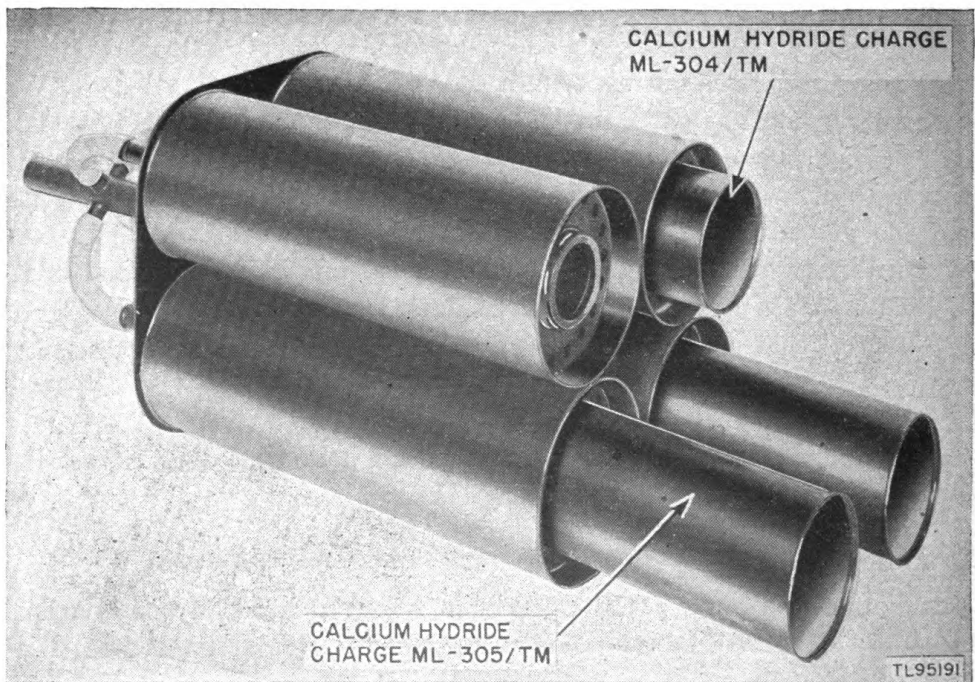

Figure 11. Attaching calcium hydride charges.
f. Attach the calcium hydride charge to the bottom of the generator by engaging the interrupted threads (fig. 11).
d. Attach the calcium hydride charges to the bottom of the generators by engaging the interrupted threads (fig. 11).